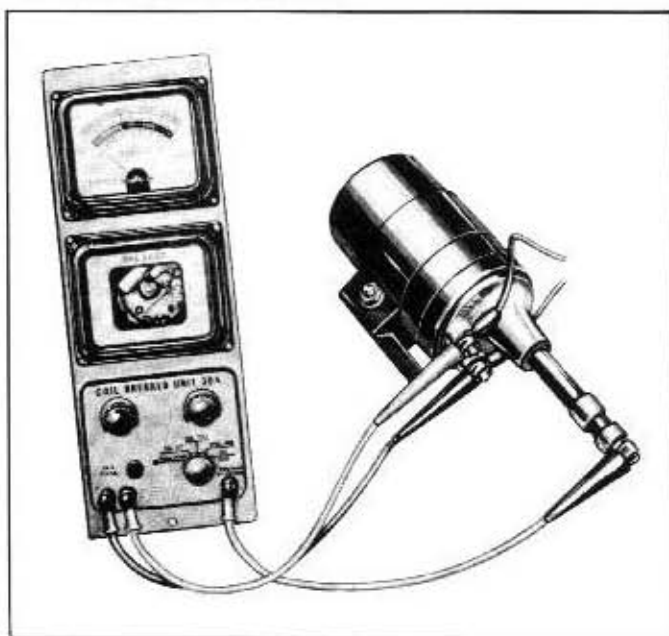

Fig. 10A-48—Heating Coil—(60C-7706)
2. Insert adapter lead in coil tower and connect Coil Tester leads as shown in figure 10A-48.